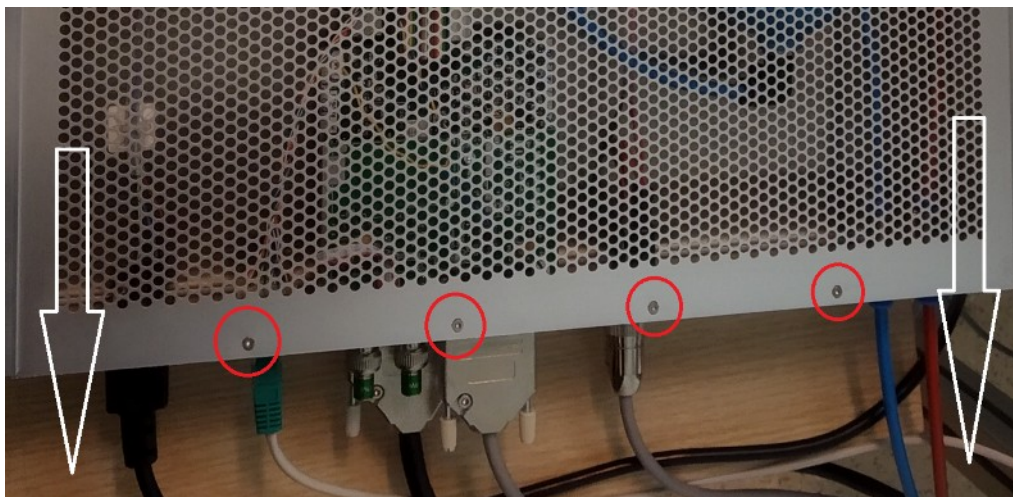

Figure 36: Removing APU unit cover. Retaining screws are marked in red. Cover removal direction is marked by white arrows.
2. Using Torx T3 screwdriver loosen four screws holding top cover (Figure 36). Remove top cover by sliding it outwards..